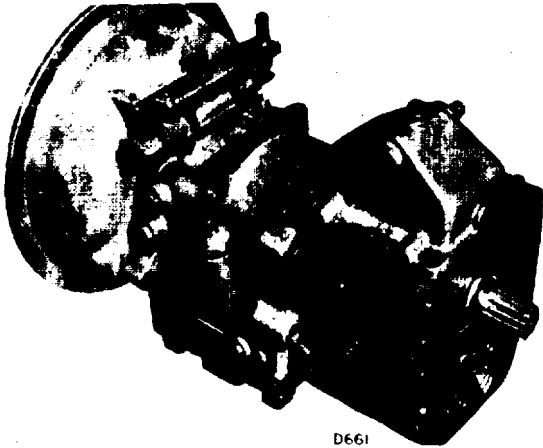

FIGURE 7-2.
**7-1. GENERAL.** (See figure 7-2).